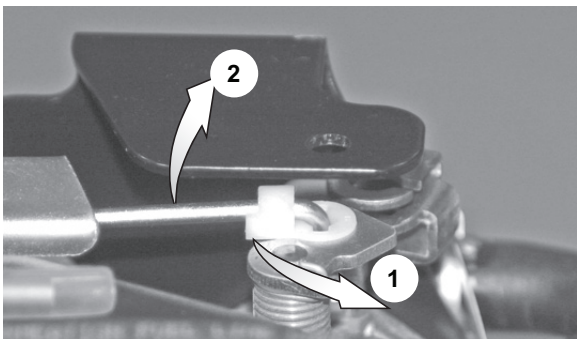

Fig. 5 Throttle Rod Removal
To remove the throttle rod from the throttle plate (Ref. Fig. 5), twist the plastic connector (1) counterclockwise away from the throttle rod. Line up the slot with the tabs on the rod. Remove the rod from the throttle lever by lifting up (2).